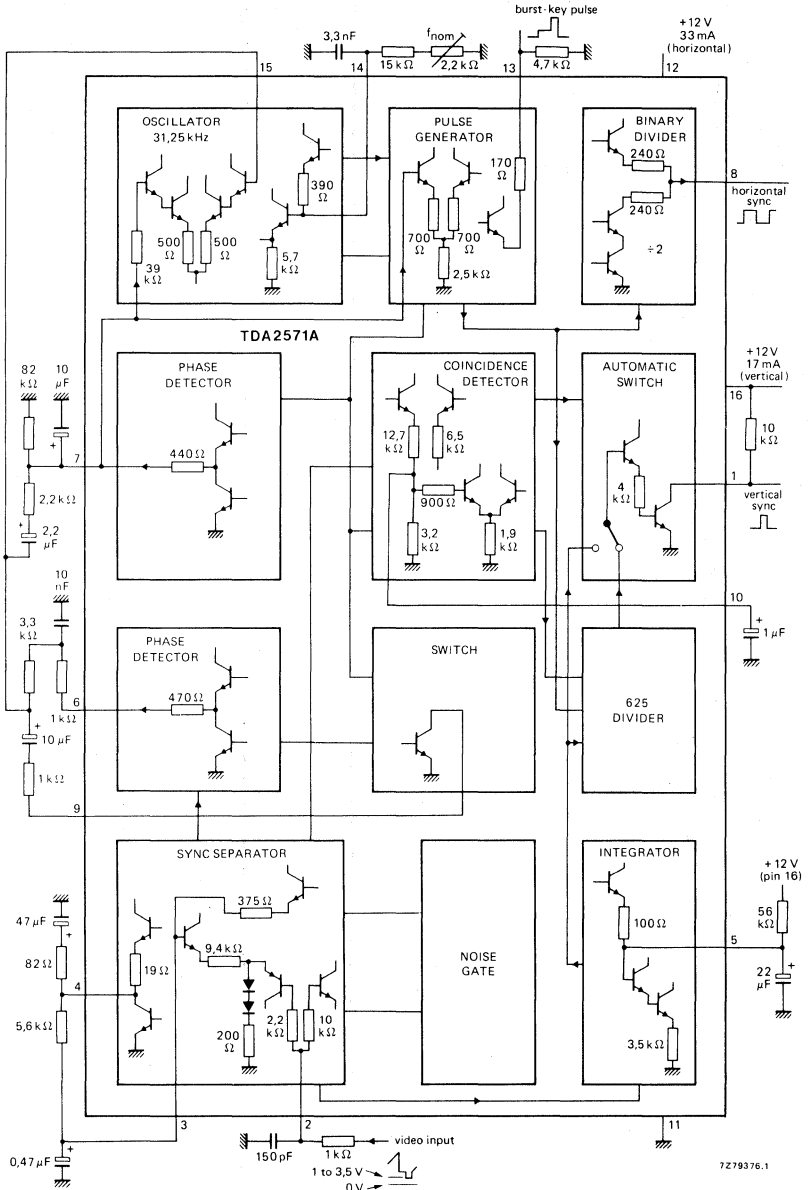

Fig. 1 Block diagram.
**CHARACTERISTICS**At  $V_{12-11} = 12$  V;  $V_{16-11} = 12$  V;  $T_{amb} = 25$  °C; measured in Fig. 1